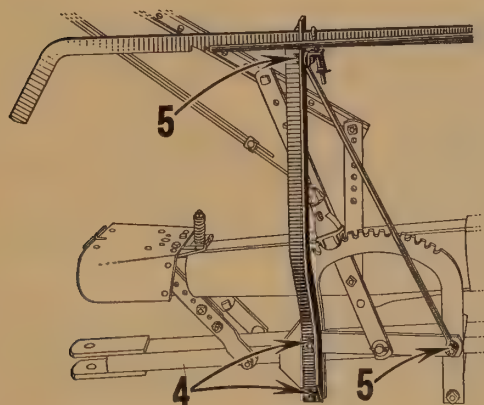

Fig. 60
4. (Fig. 60.) Bolt front support angle for extension control lever to tilting lever sector as shown.
5. (Fig. 60.) Bolt round brace and spring latch to front support angle and to tilting lever sector as shown.